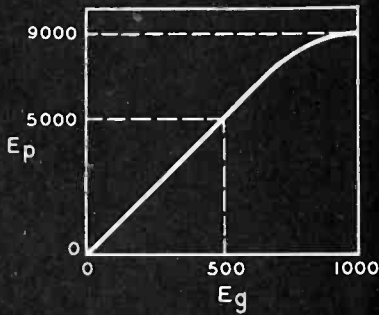

FIG. 3
In a linear power amplifier E_p/E_g is supposed to be constant; that is, the output voltage of the tube is supposed to follow faithfully the shape of the modulated wave applied to the grid. This is only approximately true. A typical dynamic characteristic of such an amplifier is shown in Fig. 3. At the carrier output the tube impresses 5000 volts across the load in response to an excitation of 500 volts. At the peak of modulation, however, the 1000-volt drive may produce only 9000 volts at the output, so that E_p/E_g at this point has become 9 instead of 10 and the apparent input capacity, according to expression (1), has become 300 mmf instead of 330. If the operator has tuned the grid circuit with the output at carrier level, then at the peak of modulation it is out of tune to the extent of 30 mmf. In other words, the load resistance R_1 into which the previous stage works has suddenly been shunted by an apparent reactance of about 5000 ohms. If R_1 happens to be, say, 1000 ohms, then the phase of the grid excitation voltage may change by as much as $\tan^{-1} 1000/5000$, or about 11 degrees, and the amplitude may be reduced by a factor of $\cos 11^\circ$, a 2 per cent reduction. We have, therefore, a phase wobble or phase modulation of the input signal to the tube, as well as a distortion in the modulation envelope, which adds to the distortion in the output.